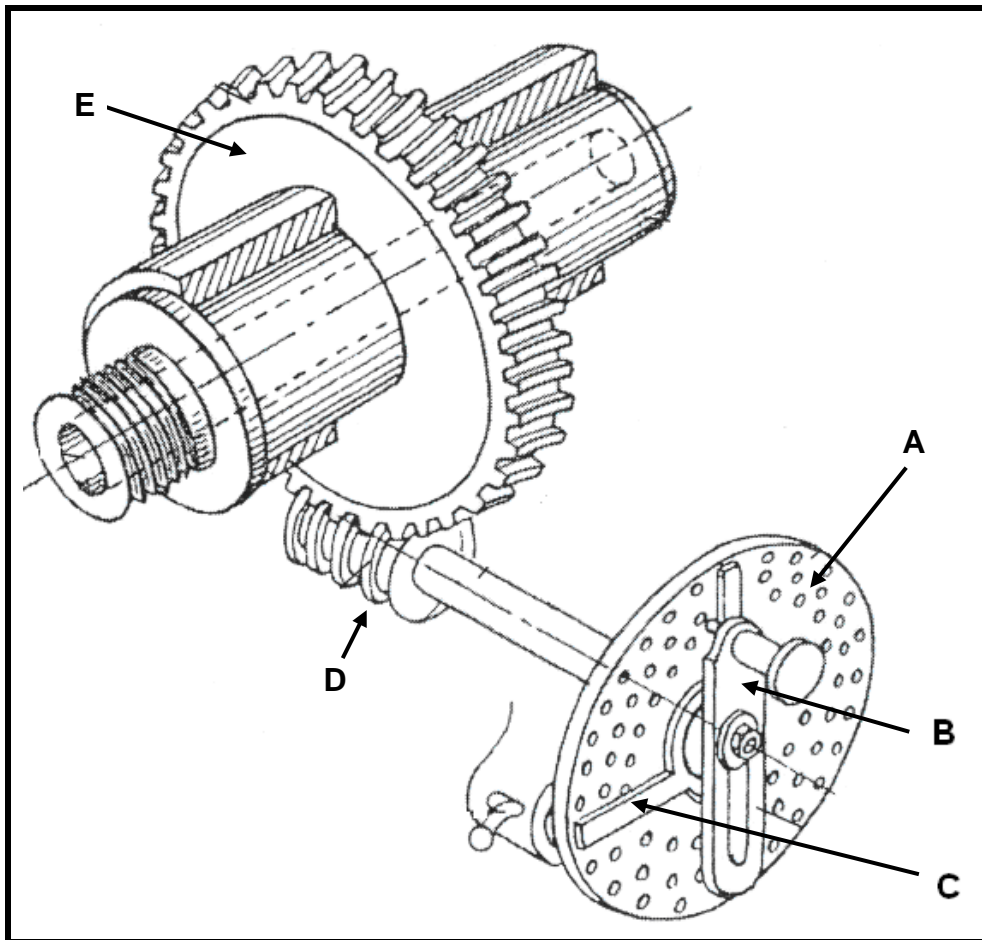

FIGURE 4.1
4.9 FIGURE 4.1 below shows a dividing head of a milling machine. Label parts A–E.